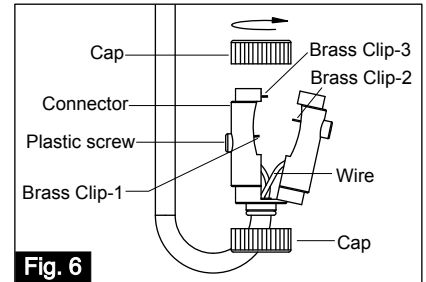

Fig. 6
4. Unscrew the caps from the connector beneath the canopy and then separate the connector. (See Fig 6)